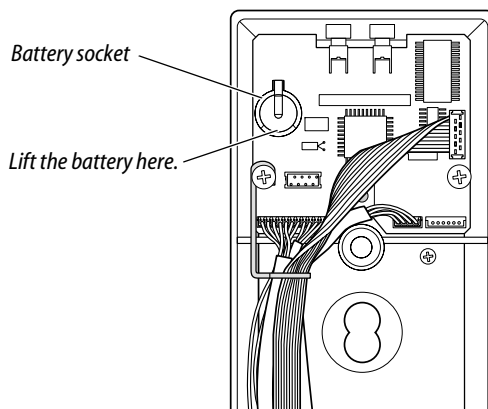

Figure 1 Removing the backup battery
- 5 Remove the backup battery from the battery socket (Figure 1).